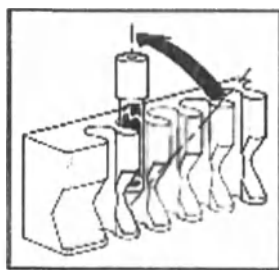

Figure 2
- B. Push the indicator straight back (see Figure 2). This crushes the media ampule and activates the indicator. Be sure that the cap will remain above the metal block when the indicator is pushed back.